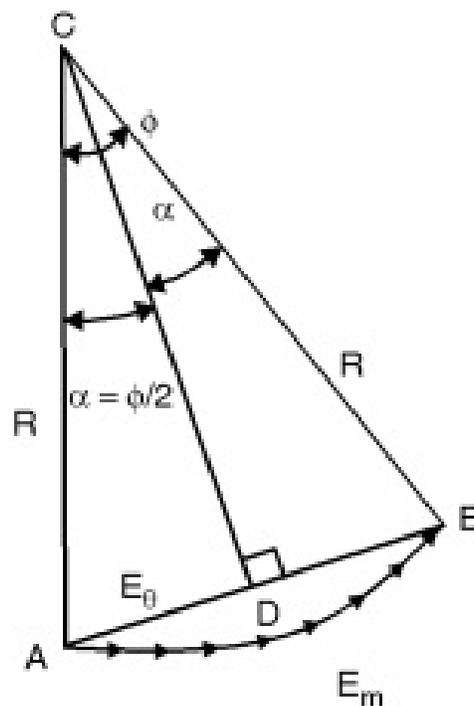

Fig. 3.4.3 : Phasor diagram
- From the geometry of Fig. 3.4.3, we have,